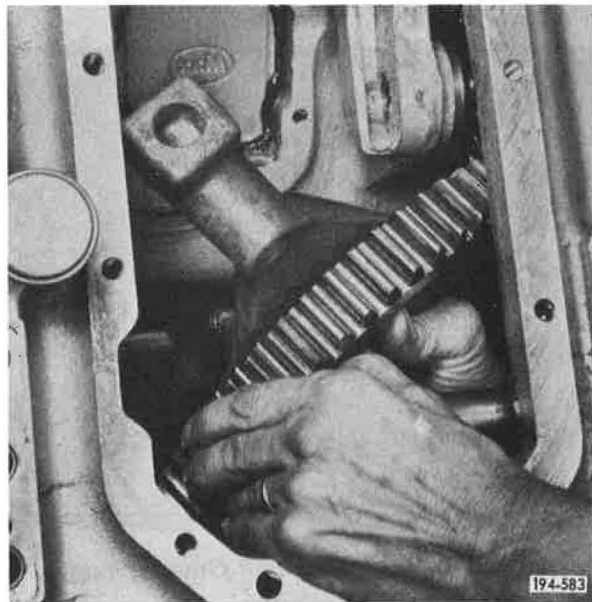

Figure 5-289. Removing Reverse Gear and Shift Fork
21. Remove reverse gear and its shift fork. See Figure 5-289.